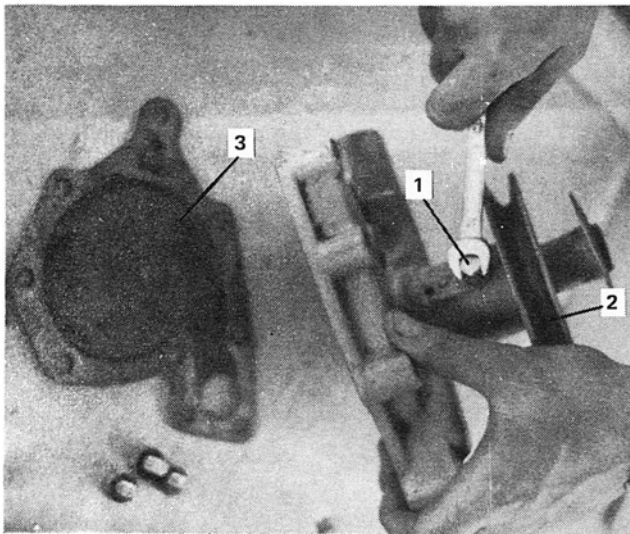

Figure 42
3. Remove the three attaching bolts and remove the set plate and gasket from the casing. Loosen the water pump bearing set bolt. See Figure 42.